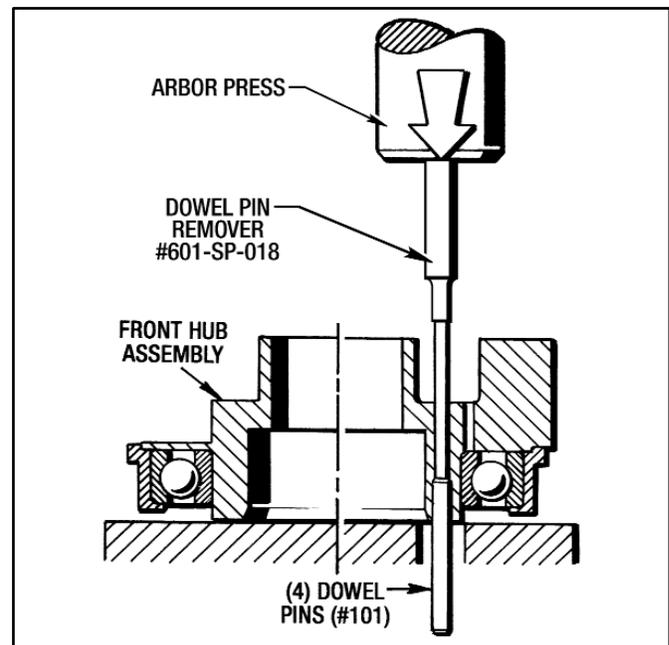

Figure 6.8 - Removing Dowel Pins (#101)
4. If any of the (4) Pins (#101), located in the Front Hub (#21), needs replaced, then press them out with an arbor press and the Dowel Pin Remover #601-5P-018, which is supplied in the Assembly Tool Kit #02-5P-002-03. (See Figure 6.8)